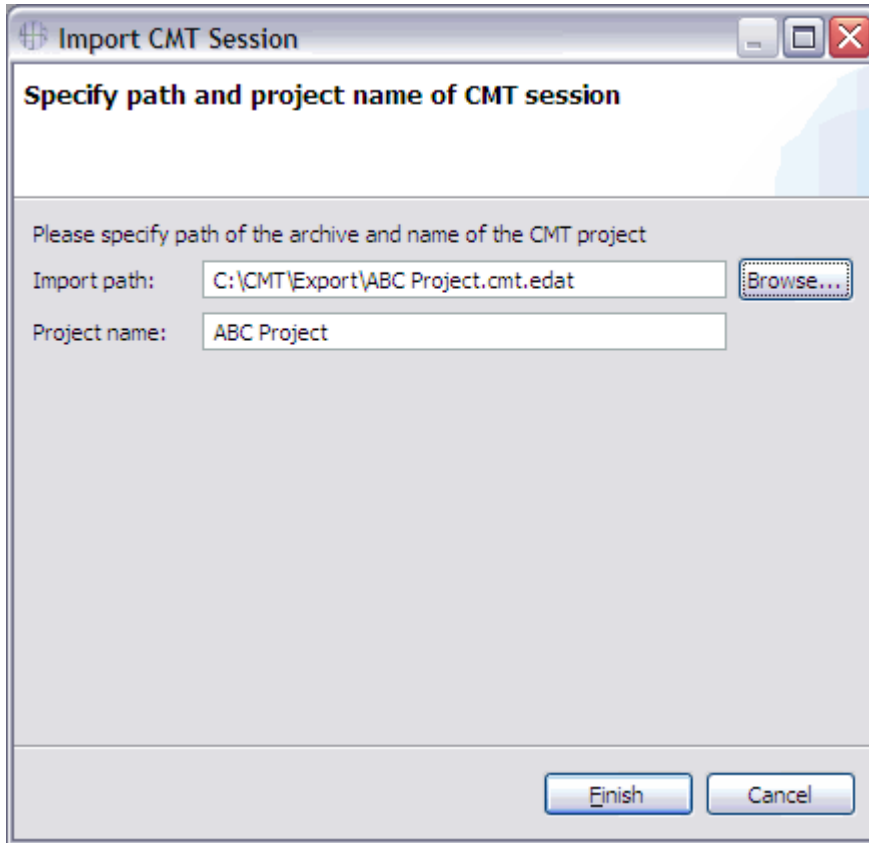

Figure 66. Importing a File
- a. When exporting a session, the tool zips the **Input** folder (with folders containing IOCP and CFReport files), **Reports** folder, and **session.cmt.dat** file into a file with an extension of **.cmt.edat**. When importing a session, the tool unpacks these files. Figure 66 on page 51 shows an example in which the session to import has a file name of **ABC Project.cmt.edat**. The tool fills in the **Session name** of **ABC Project**.